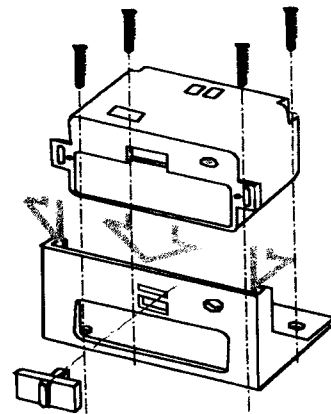

Figure 4
- Use the screws provided to secure the face blade to the Remote Receiver. See Figure 4.
- Slide the Remote Receiver into the fireplace mounting plate. See Figure 4.